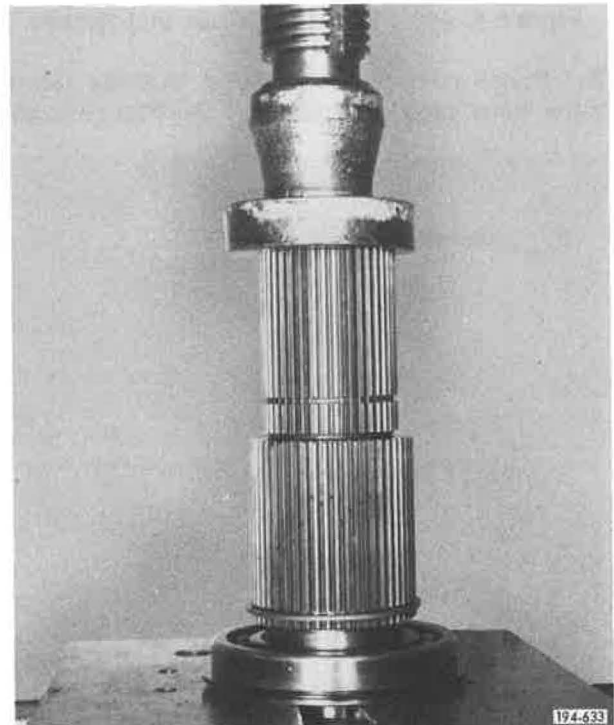

Figure 5-462. Pressing Bearing onto Mainshaft
1. Press rear mainshaft rear bearing onto shaft. See Figure 5-462.